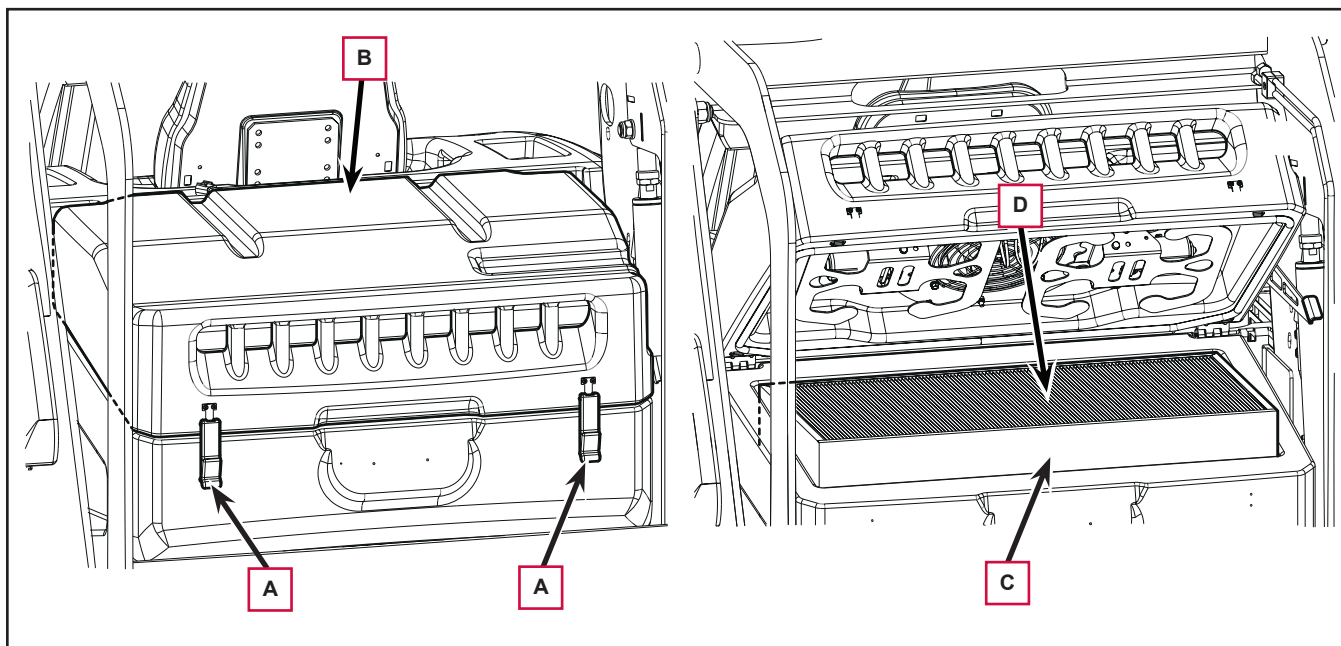

Figure 3
4. Release the fasteners (A, Figure 3) and open the vacuum system cover (B).
5. Lift the dust filter (C) and remove it from the machine.
6. Clean the dust filter (C) using one of the methods below: